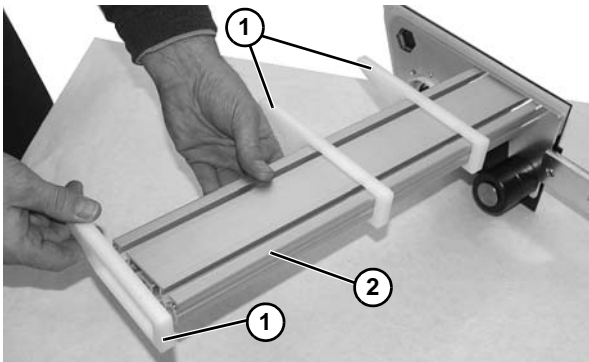

Figure 78
25. Remove gap filler plates (Figure 78, item 1) from crossmember (Figure 78, item 2).